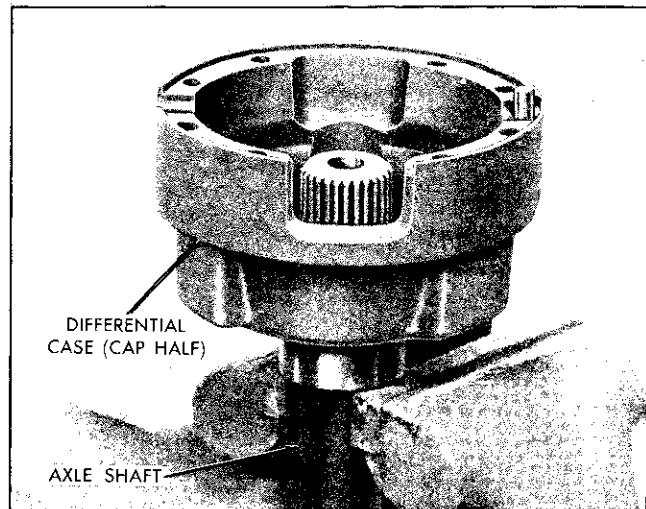

Fig. 4B-11 Axle Shaft and Cap Half of Case - Two or Four Pinion Tempest and Firebird
1. Clamp one axle shaft in vise, allowing three inches to extend above vise jaws. Then place cap half of differential case over extended axle shaft, with interior of case facing up (Fig. 4B-11).